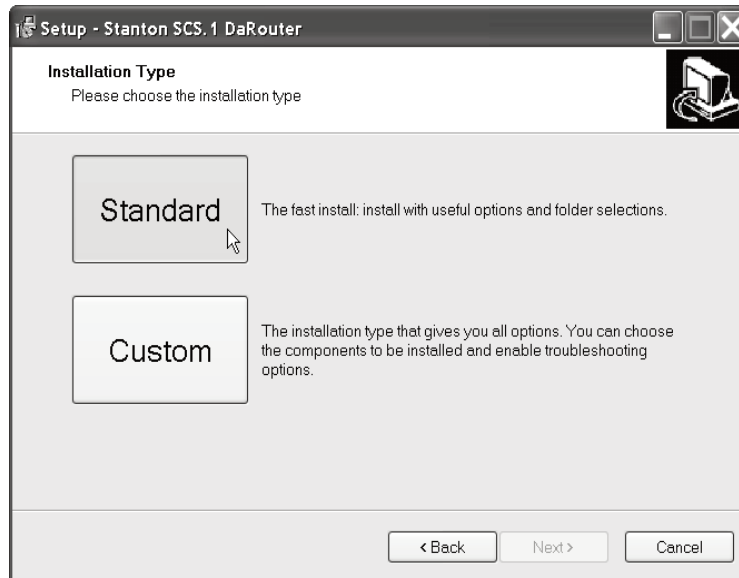

Figure 4.3
- To install the software for the first time, choose the **Standard** option. To update your previously installed version, choose **Custom**. In this example, let's choose **Standard**. (Figure 4.3)